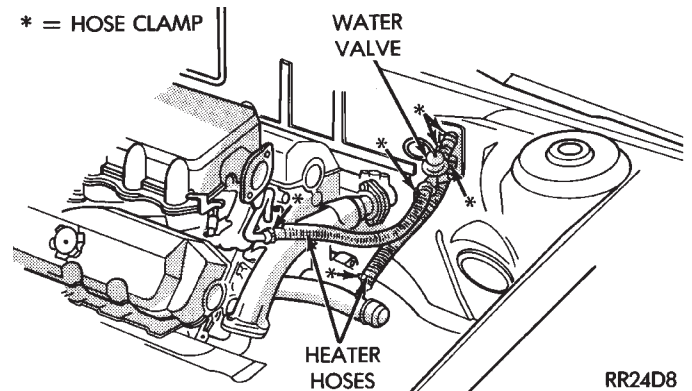

Fig. 8 Heater Hose Routing — V6 Engine
(1) Drain engine cooling system. Refer to Group 7, Cooling System.
(2) Loosen clamps at each end of hose to be removed (Figs. 8 or 9).